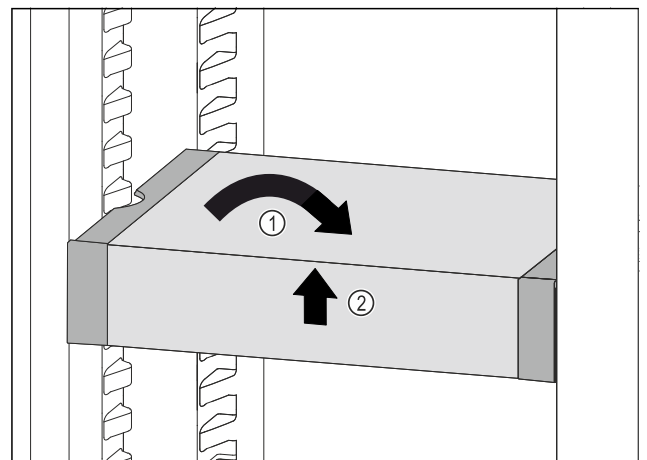

Fig. 88
- Set VarioSafe straight. Fig. 88 (1)
- Lift VarioSafe at the front. Fig. 88 (2)